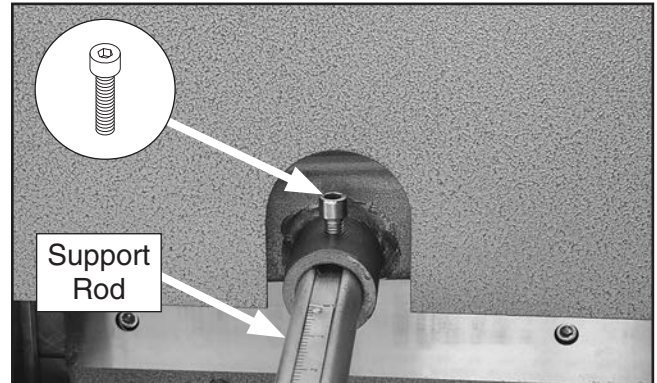

Figure 4. Support rod secured with cap screw.
3. Secure each support rod with (1) M8-1.25 x 15 cap screw (see **Figure 4**).